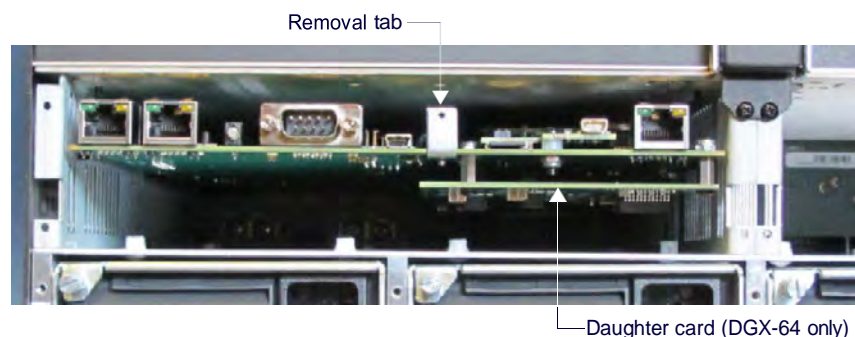

FIG. 163 Use removal tab to pull CPU straight out
5. Use the removal tab indicated to pull the CPU board assembly straight out of the enclosure (FIG. 163):